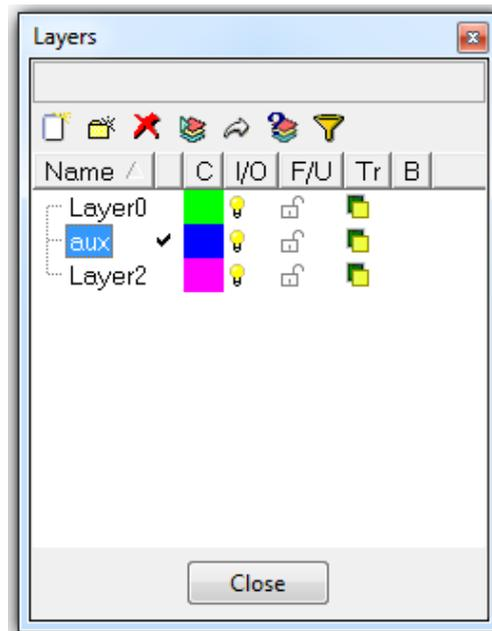

Figure 1. The Layers window.
- 2 . Create two new layers called "aux" and "ok". Enter the name for each layer in the Layers window (Figure 1) and click **New**.